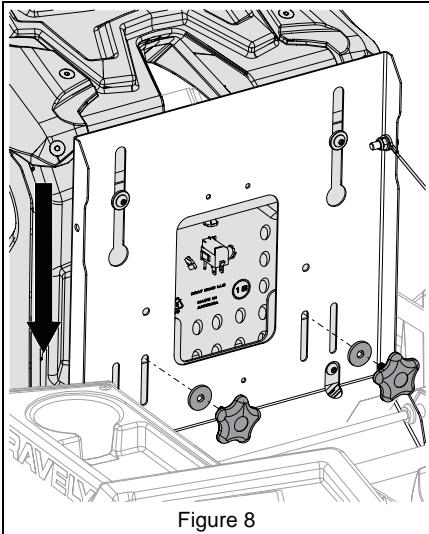

Figure 8
2. Move seat forward and reinstall original hardware. See Figure 8.